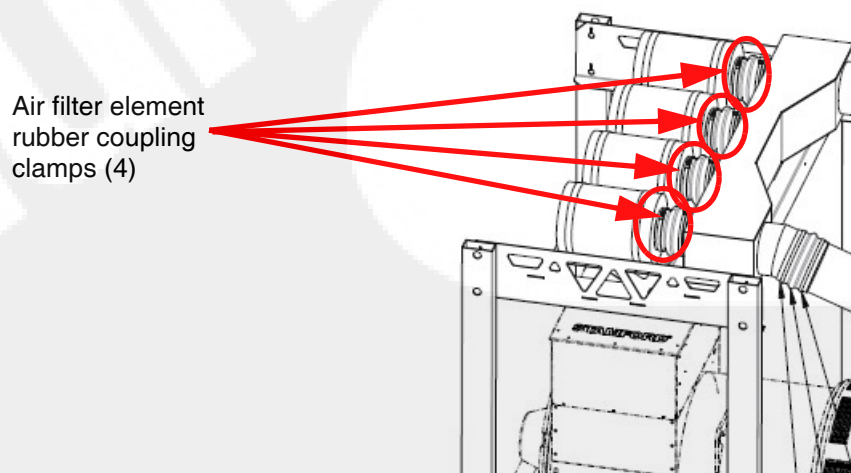

Figure 7-35 Air filter rubber coupling clamps (GenSet right side)
3. Loosen the clamp on the rubber coupling to each air filter (shown in Figure 7-35).